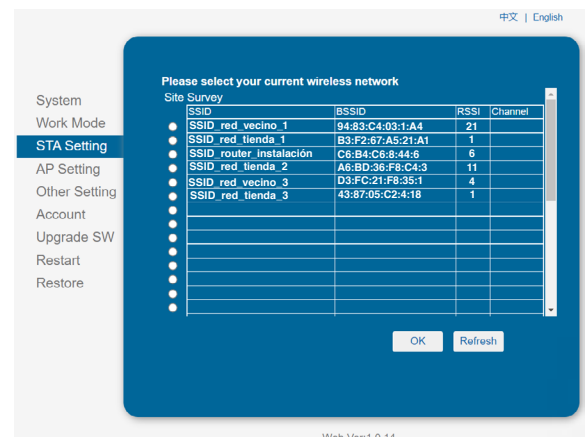

Fig. 52. Selecting the WiFi network.
- Select the desired WiFi and click on "OK". It only supports 2.412GHz-2.484GHz routers. See Fig. 52.